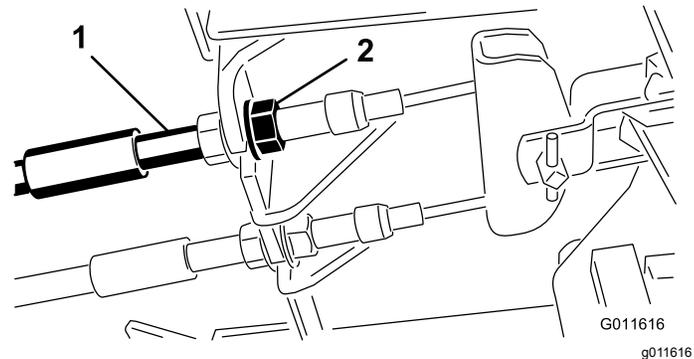

**Figure 68**
Adjust the brakes when there is more than 25 cm (1 inch) of free travel (Figure 68) of the brake pedal, or when more holding force is required. Free travel is the distance that the brake pedal moves before you feel braking resistance.
2. Tighten the rear nut to move the cable backward until brake pedals have 6.3 to 12.7 mm (1/4 to 1/2 inch) of free travel (Figure 68), before the wheel locks up.